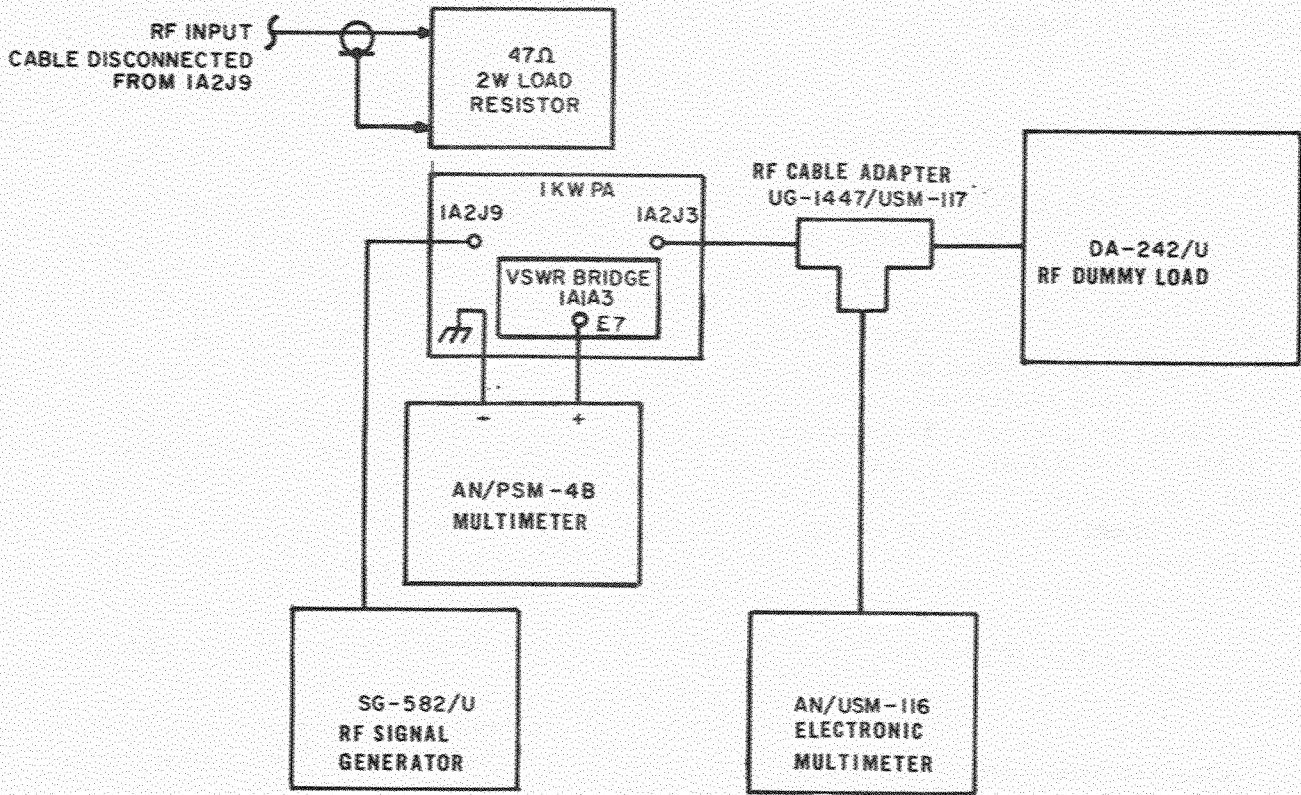

Figure 5-2. 1 KW PA VSWR Bridge Alignment Setup
19. Break down test setup, and reassemble equipment and cables, following reverse order of steps 2 through 10 and referring to figure 5-2 as a guide.